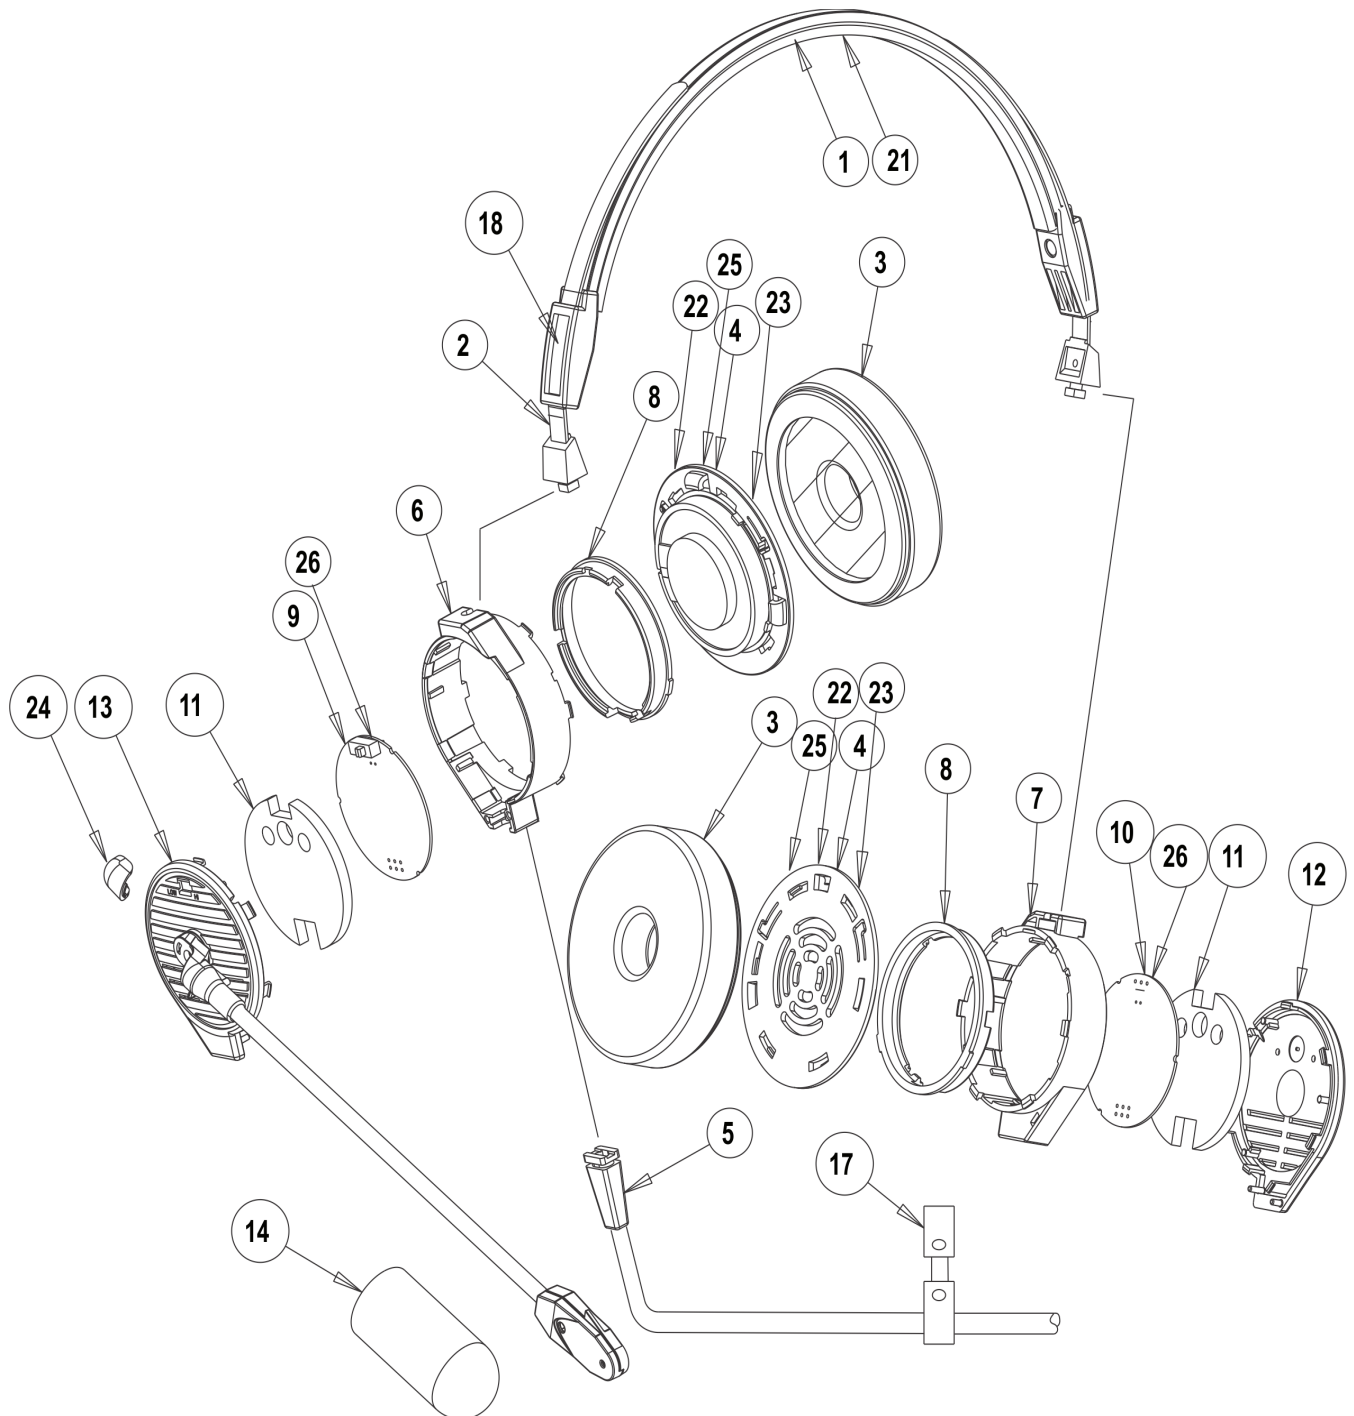
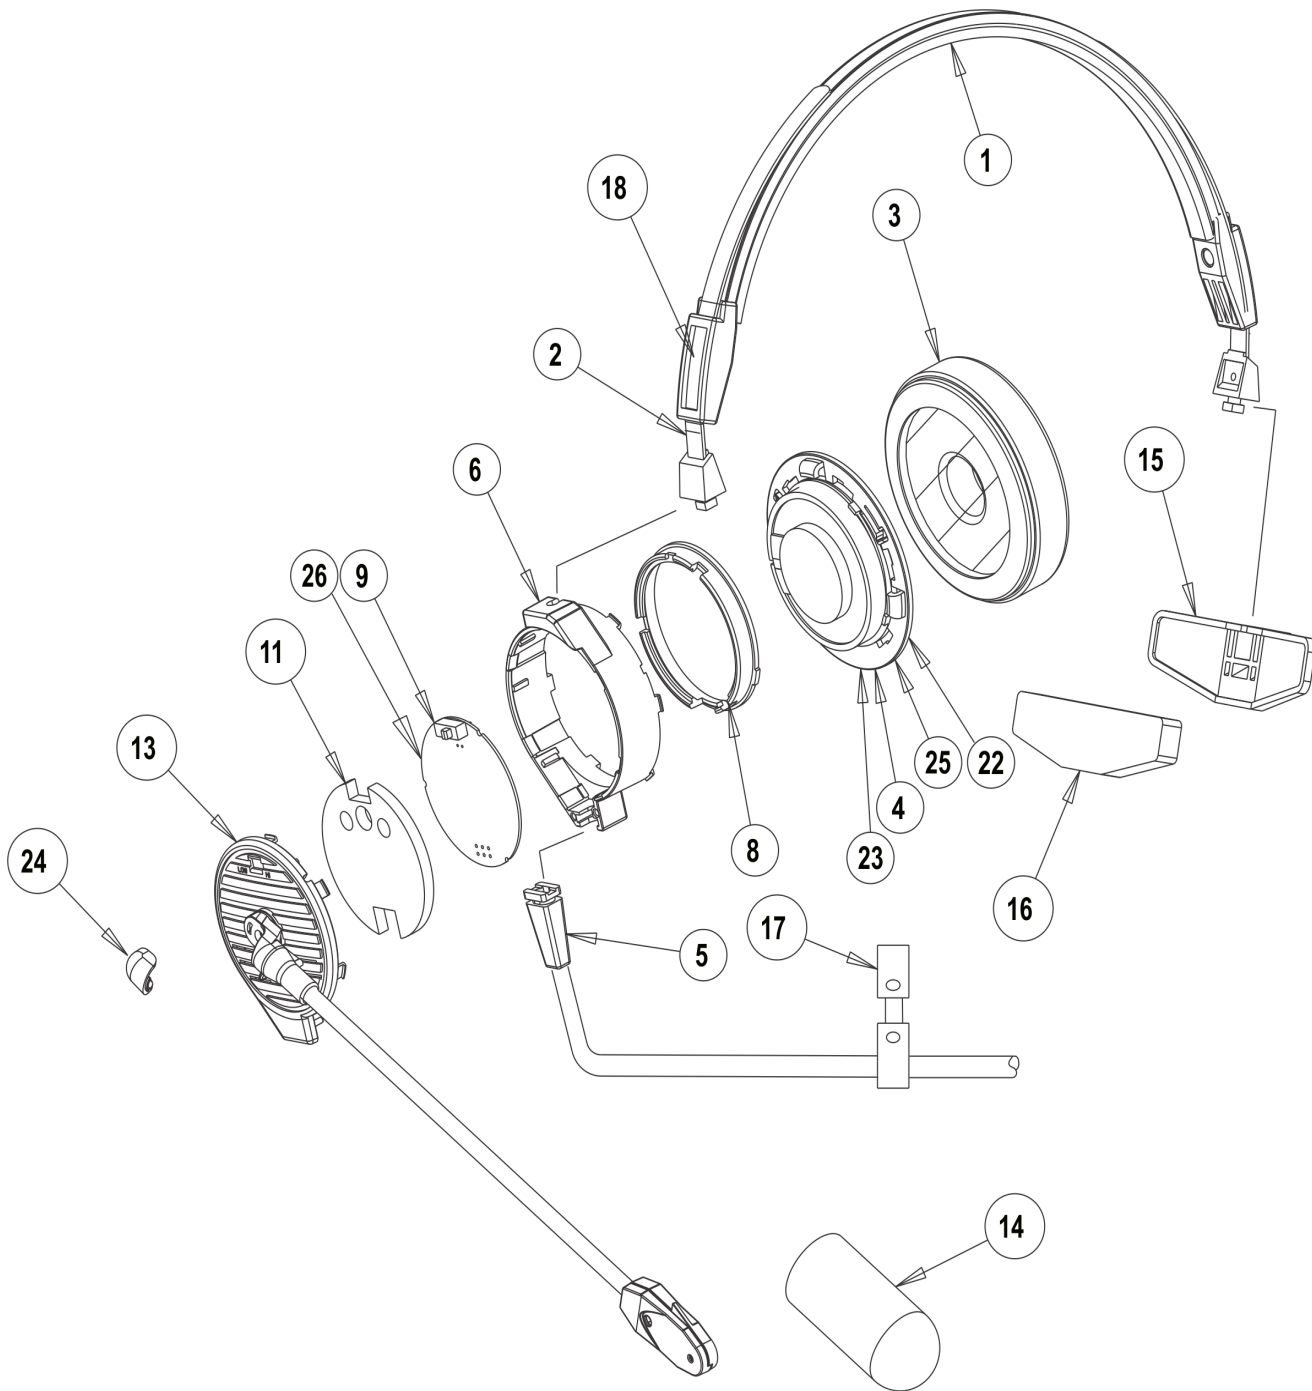

FIGURE 1. Airman 850 Headset, Dual Sided, Exploded View
FIGURE 2. Airman 850 Headset, Single Sided, Exploded View
The following procedure allows for complete disassembly of the Airman 850 final assembly (see Figure 1 and Figure 2).
When replacing parts, consult Figure 1 on page 13, Figure 2 on page 14, and the parts list. Choose the parts corresponding to the catalog/model number on the Headband Assembly (Figure 1 on page 13, item 1).